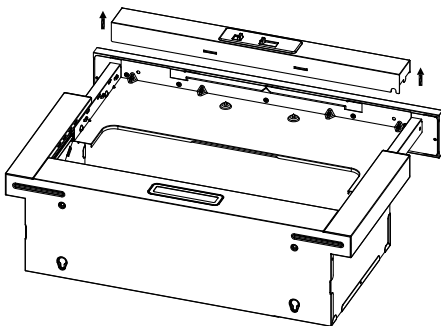

Fig 3
- Remove the switch panel (fig 3).